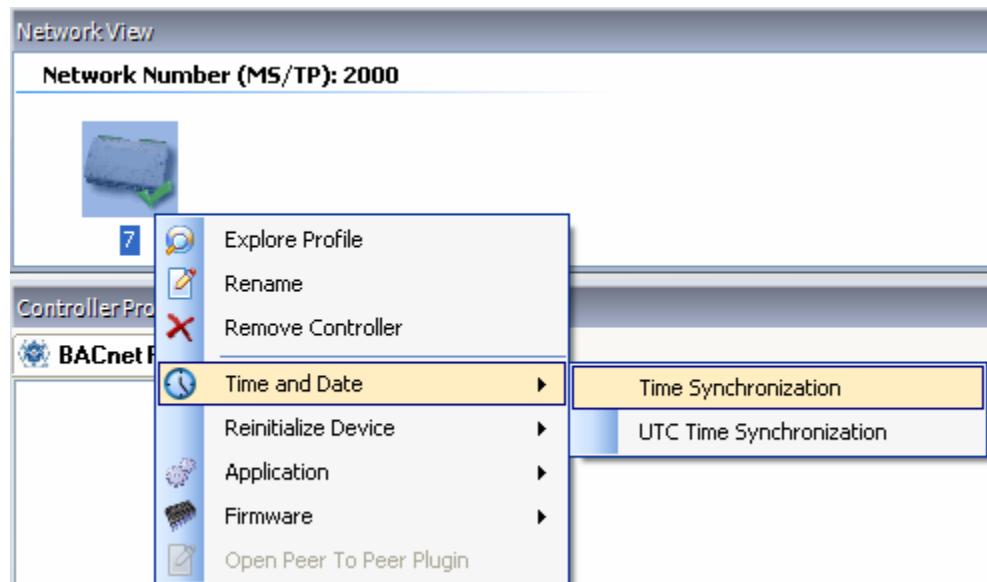

Figure 32: Setting the Controller's Time and Date
2. Right-click the selected device (Figure 32) and select Time and Date. Two options appear: